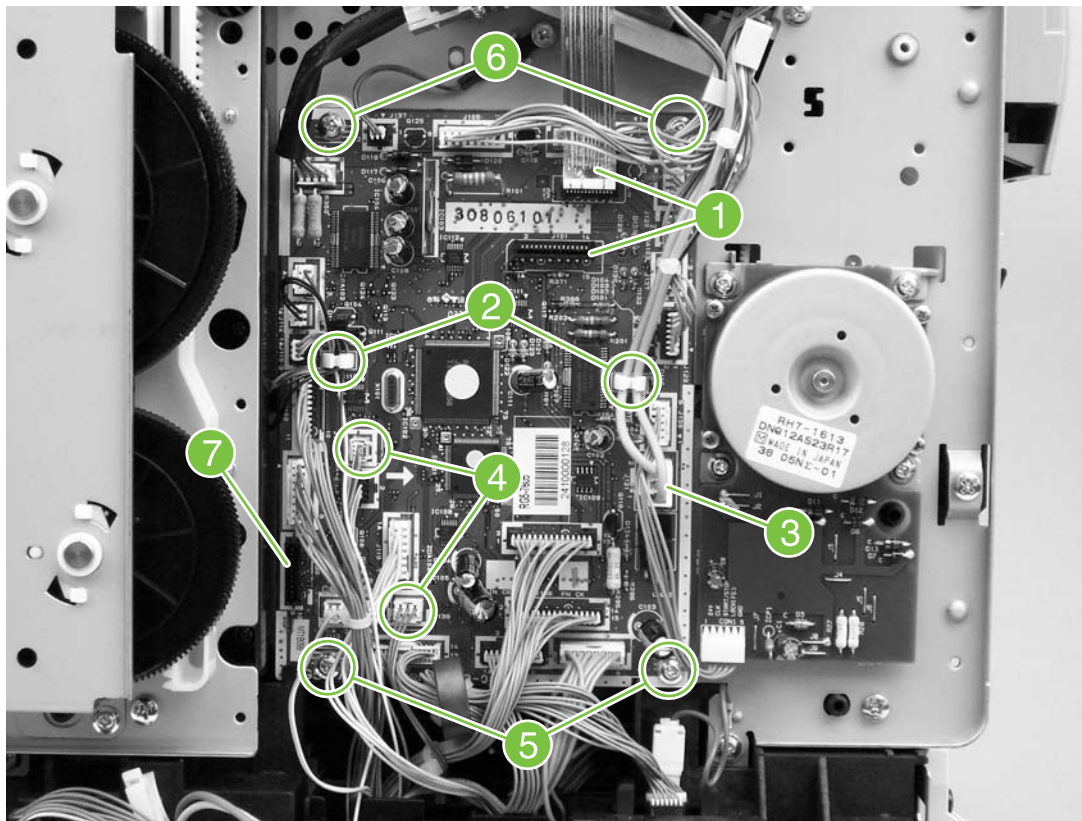

Figure 5-67 Remove the DC controller
- 5 Unplug two cable connectors (callout 4) by releasing a clip on each connector (see the detail in the lower-left corner of Figure 5-67 Remove the DC controller).
Reinstallation tip The connection that remains empty upon reinstallation is shown in callout 7 in Figure 5-67 Remove the DC controller. The connection is used to update the DC controller firmware.